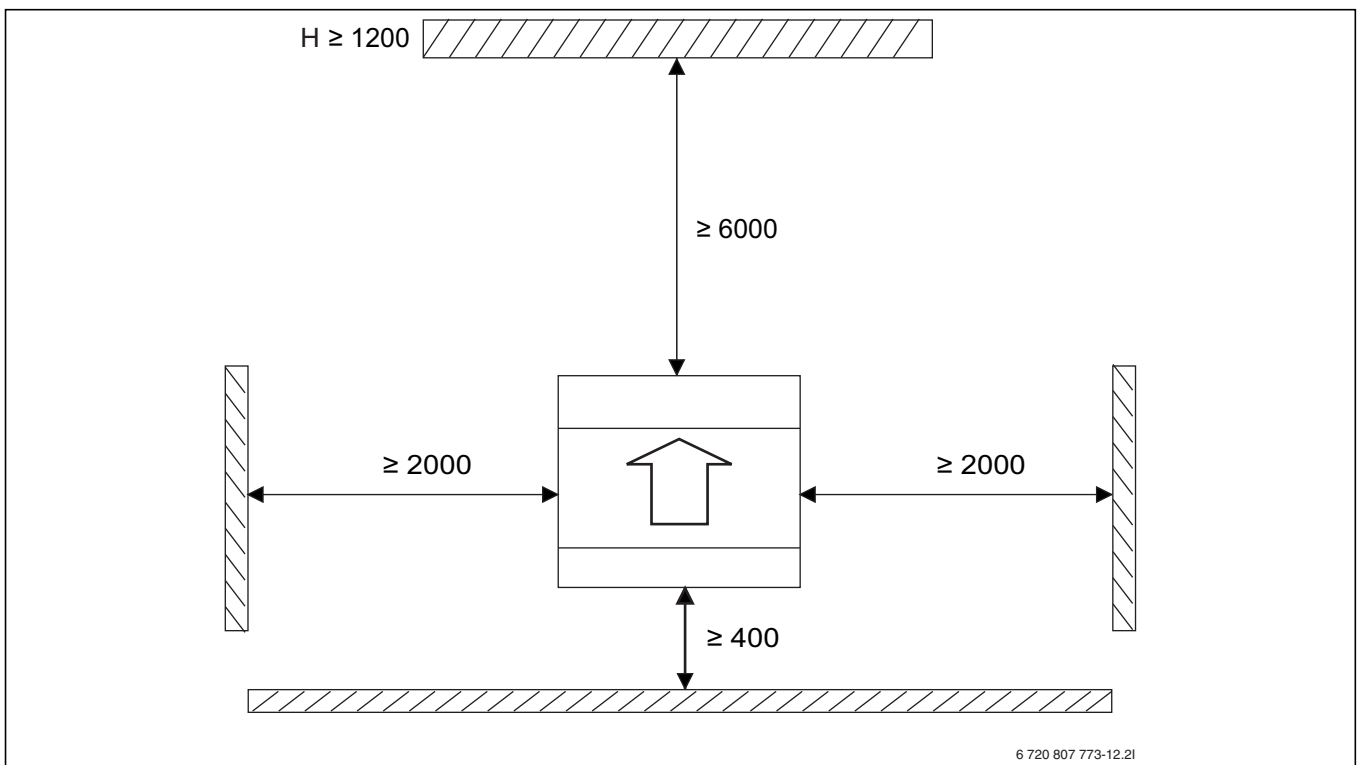

Fig. 11 Minimum clearances heat pump - surroundings (mm)
- The heat pump must be placed in such a way as not to obstruct air flow through the evaporator (→ Fig. 11).